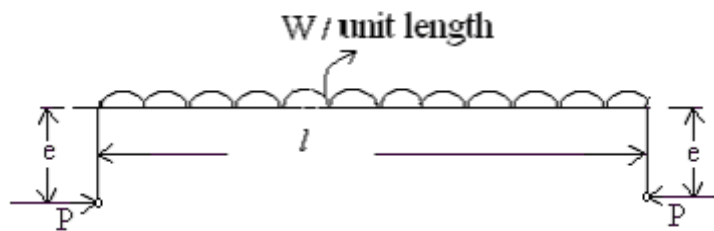

Figure 7
2. A pin jointed strut carries a UDL of intensity 'w' per unit length and an eccentric axial load P at an eccentricity of 'e' as shown in figure 7. Find the deflection at mid span of the strut. [16]